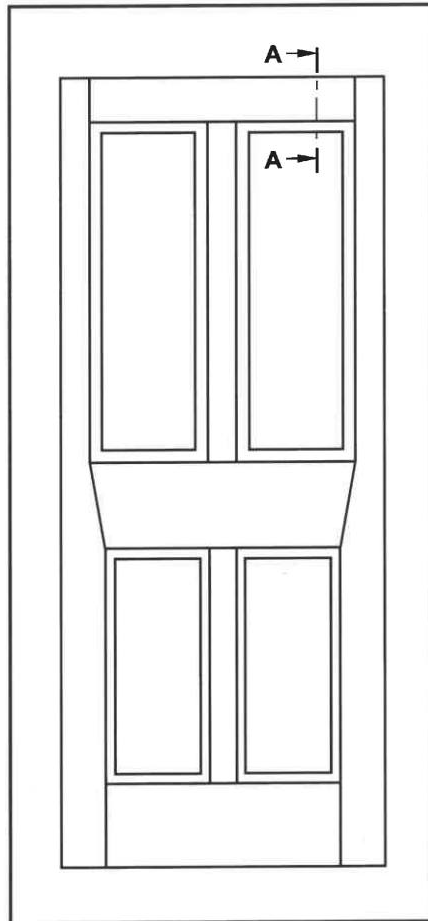

FIGURE 6.6
- DO NOT show hidden detail. (6)
- 6.6 FIGURE 6.6 shows the front view of a four-panel door with a lock rail, diminishing stiles and raised panels. Section line **A-A** is also indicated on the drawing.